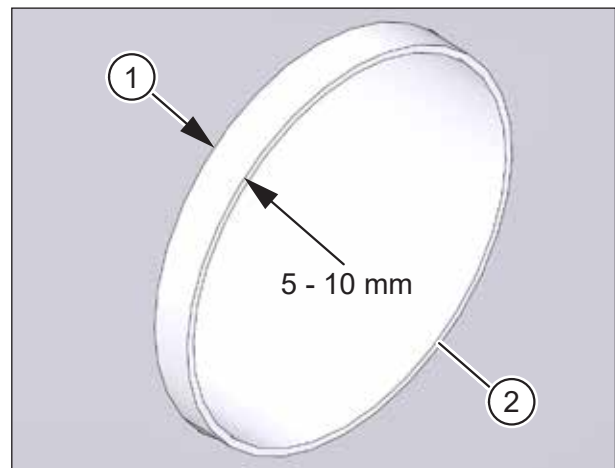

Fig. 15: Checking the ventilation pipes
- ▶ Check that the ventilation pipes protrude 5 - 10 mm beyond the external plaster (see item 1 in Fig. 15).
- ▶ Check that the cut surfaces of the ventilation pipes have been deburred (see item 2 in Fig. 15).